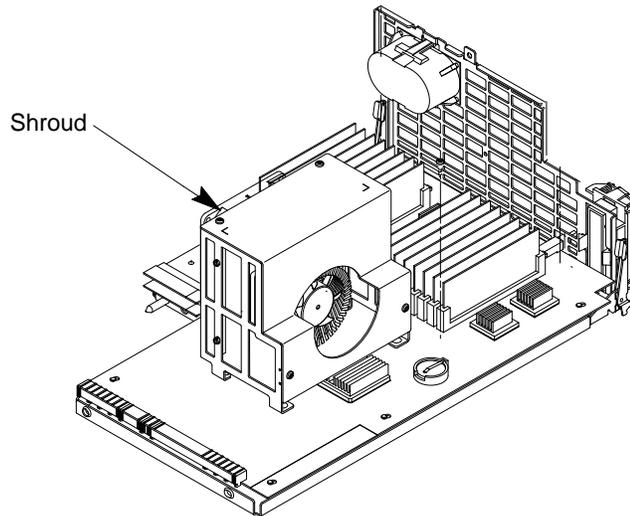

Figure B-27. CPU Shroud Location
5. Locate the CPU shroud as shown in Figure B-27.